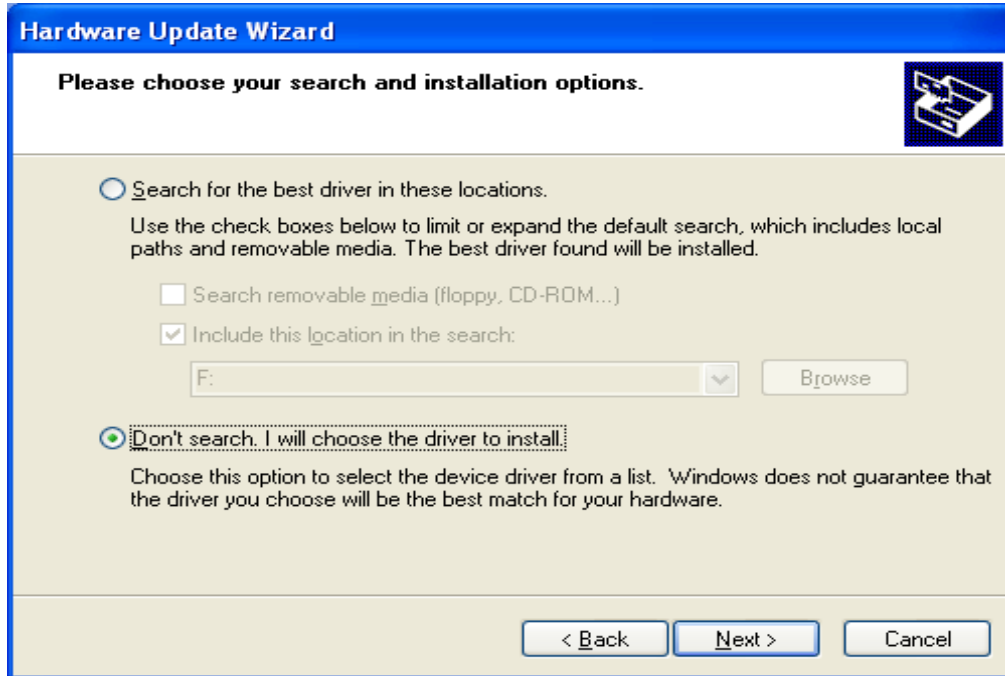

Figure K-12. Search and installation options
Step 3. Select "Don't search, I will choose the driver to install" option and click Next button as Figure K-12